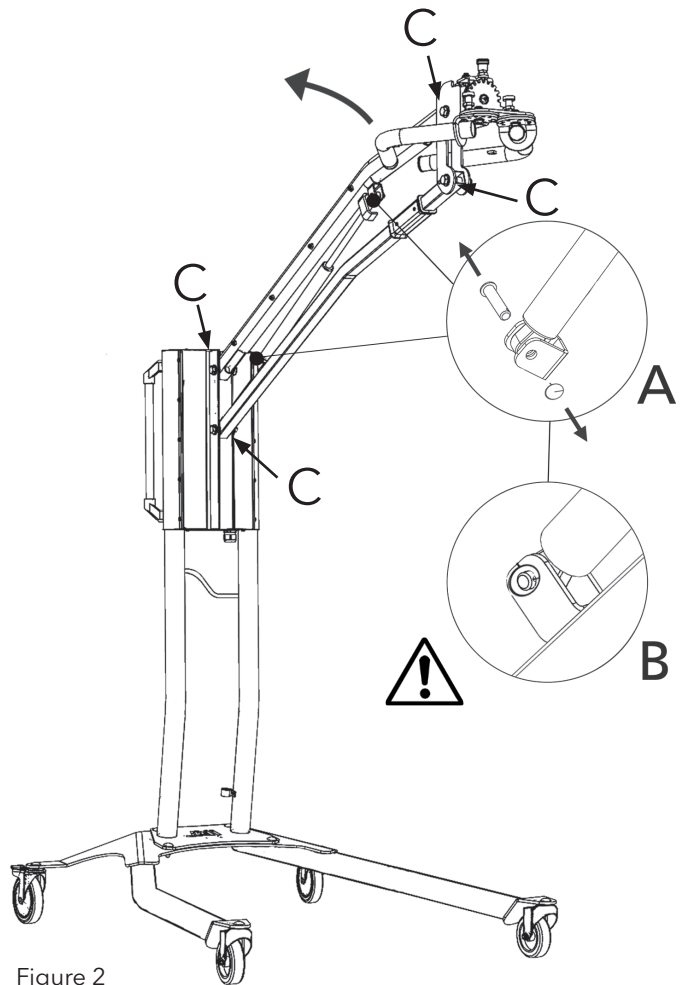

Figure 2
If the mobile arm does not park in highest or lowest position but falls or raises slightly by itself, tighten the 4 bolts indicated with the letter "C" in figure 2. If the arm still does not park or becomes heavy to adjust, the gas pressure spring must be replaced.
2. Place the parallel arm in the far most upright position. (figure 2)
4. Remove the locking rings and the two pins. Move the gas spring slightly upwards/forward and then remove it. (figure 2)